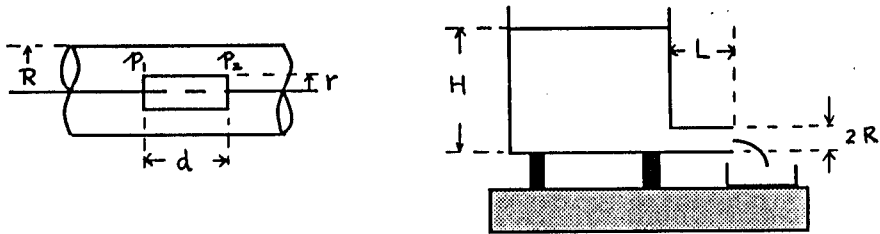

Figure 1
3. An experimental setup used to measure the fluid viscosity μ is shown in Fig.1. A tank of height H has a circular exit tube of radius R and length L positioned horizontally at the bottom with $R \ll H$. Neglect the entrance effect and assume that the flow in the tube is fully developed and laminar. The axisymmetric velocity profile in the tube is $u(r)$. The density is constant.